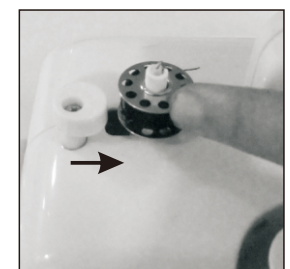

Fig.16
7. Push bobbin away from bobbin winder stop, take bobbin off the pin and cut the thread (Fig.16)